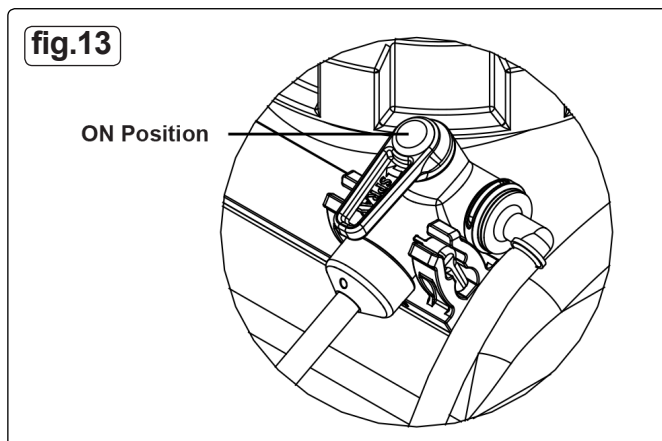

fig.13
- 8.3.2 Turn the broadcast lance valve on (fig.13).